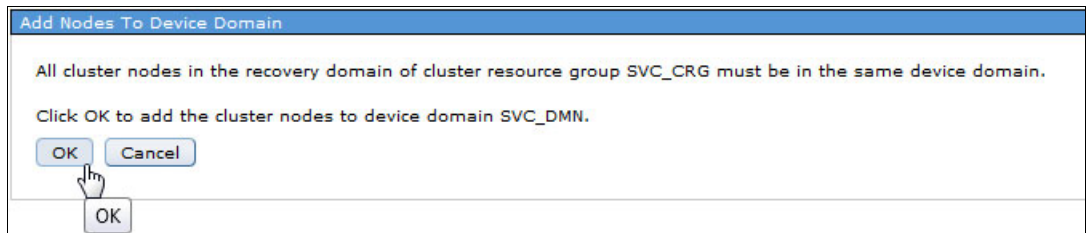

Figure 4-49 Three-node cluster: Warning message
10. The new node is not yet added into the cluster device domain, as shown in the message that is shown in Figure 4-49. Click **OK** and the new node is automatically added to the same device domain that is used by the other nodes in the recovery domain.